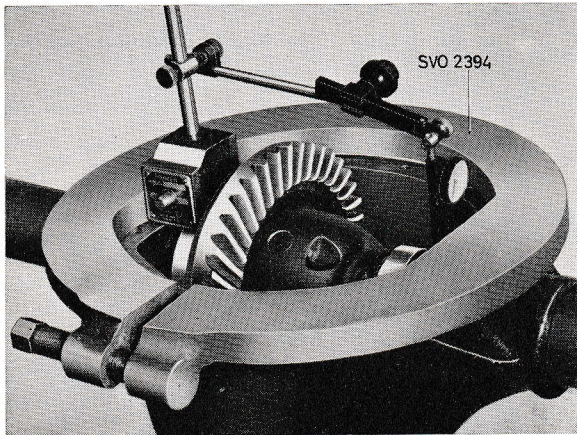

Fig. 23. Removing the differential.
5. Remove the inspection cover (42) from the rear axle housing.
7. Fit the tool SVO 2394 in the holes in the rear axle housing as shown in Fig. 23. Fit an indicator so that the expansion of the drive pinion carrier can be read off. Tighten the tensioning screw so that the carrier is expanded not more than 0.3 mm (0.012"). Remove the indicator. Lift out the differential case with the ring gear.